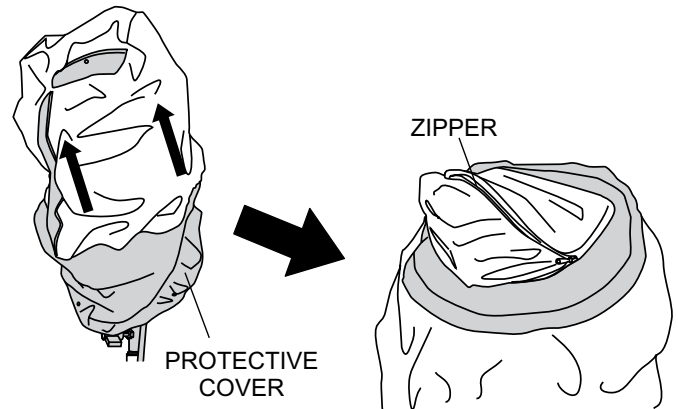

Figure 13. Folding Protective Cover
3. Next, fold the protective cover (Figure 13) into itself and zip.